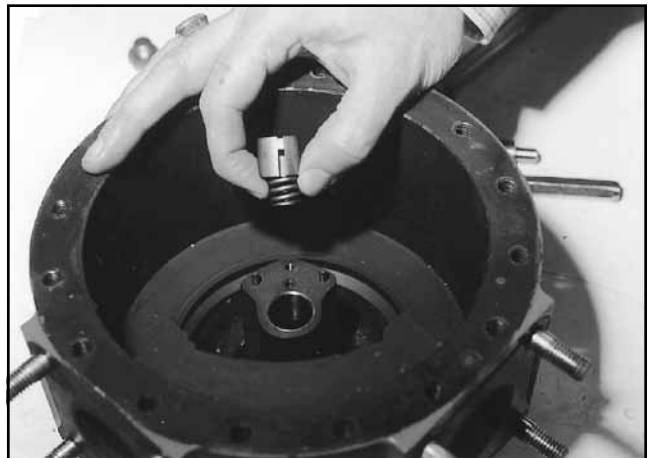

Figure 10
4. With adjusting screw removed, the adjusting collar and rotor spring, Figure 10, can be lifted from the housing.
- **When replacing spring and collar, slot in collar must line up with key pin in hub, Figure 10.**